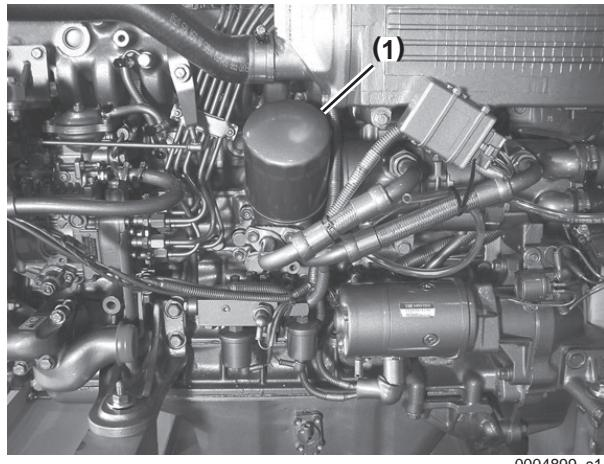

Figure 4-1
3. Turn the engine oil filter (Figure 4-1, (1)) counterclockwise with a wrench.